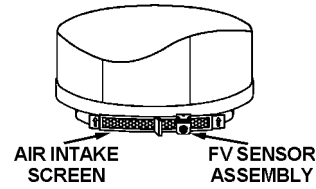

FIGURE 3.
INSTALLATIONS IN AREAS WHERE FLAMMABLE LIQUIDS (VAPORS) ARE LIKELY TO BE PRESENT OR STORED (GARAGES, STORAGE AND UTILITY AREAS, ETC.): Flammable liquids (such as gasoline, solvents, propane (LP) or butane, etc.) and other substances (such as adhesives, etc.) emit flammable vapors which can be ignited by a gas water heater's hot surface igniter or main burner. The resulting flashback and fire can cause death or serious burns to anyone in the area. This water is equipped with a FV sensor for detecting the presence of flammable vapors, see Figure 3. When the sensor detects those vapors, the unit will shut down and not operate. Should this happen, please refer to the troubleshooting guide on pages 28-30. Even though this water heater is a flammable vapors ignition resistant water heater and is designed to reduce the chances of flammable vapors being ignited, gasoline and other flammable substances should never be stored or used in the same vicinity or area containing a gas water heater or other open flame or spark producing appliance.